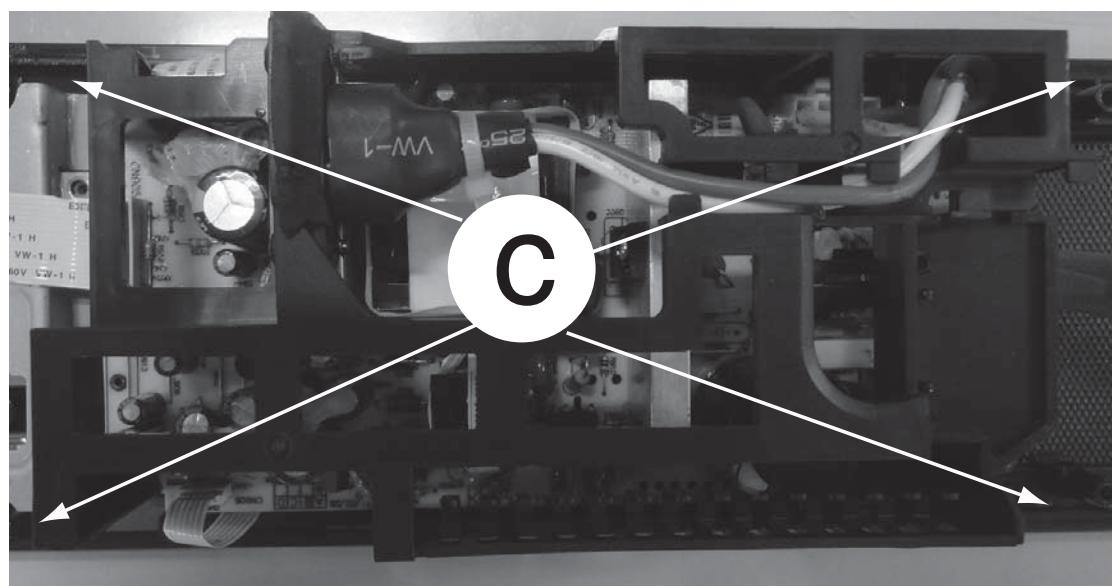

Figure 3
- 1) Loosen 4 screws "C" to remove the Power Board as shown in figure 3.